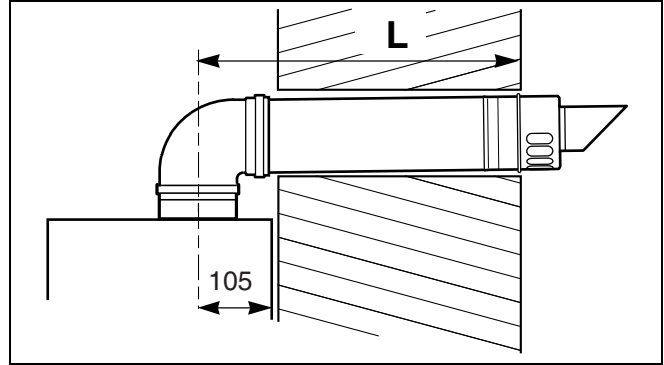

Fig. 19 Flue length - rear
- Measure the flue length L. Refer to figures 19 and 20.